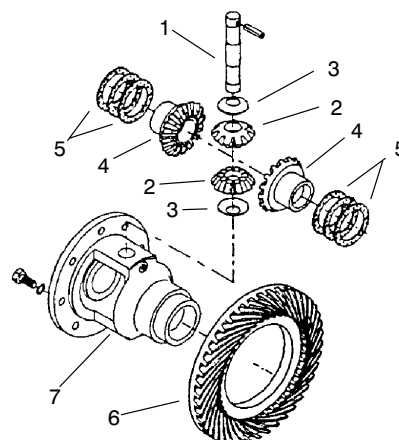

Figure 22
7. Remove the differential pinion shaft, pinion gears, and pinion washers. Remove the differential side gears and side gear shims. Remove the ring gear only if it will be replaced (Fig. 22).